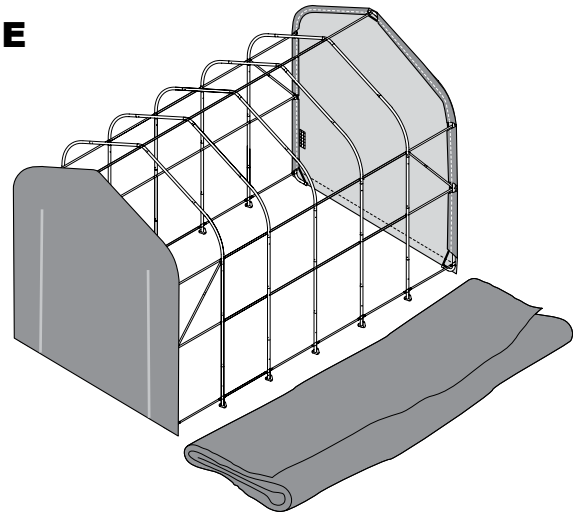

Fig.11A
A. Lay the cover on the ground next to the frame with the inside of the cover (the side with the pipe pockets) facing down and the webbing on the front and rear of the corner of the building. Position the cover so that it is centered on the frame, front to back. Fig. 11A